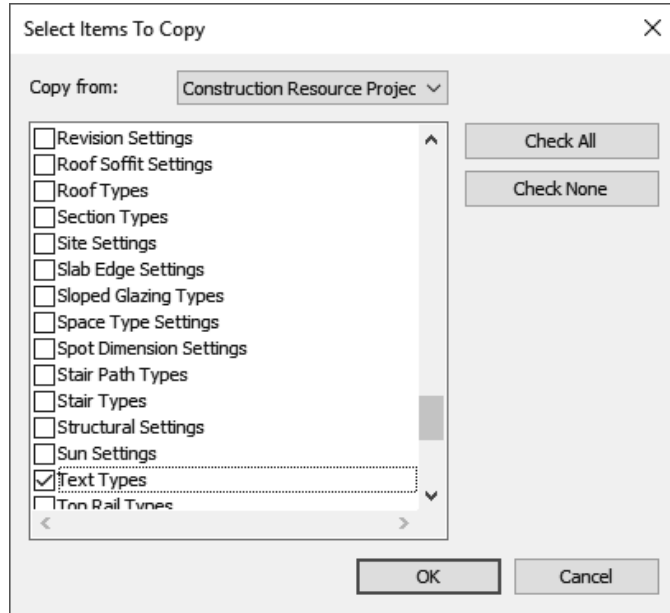

Figure 1–38
5. Click **Check None**, select **Text Types** (as shown in Figure 1–38), and click **OK**.